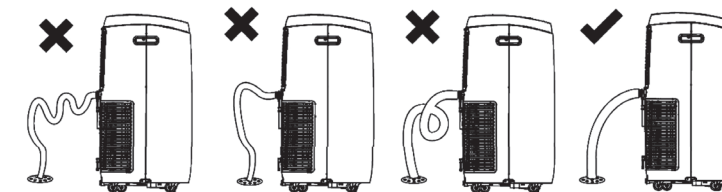

Fig 15.1
- Make sure that there are no kinks or knots in the garden hose (Fig 15.1).